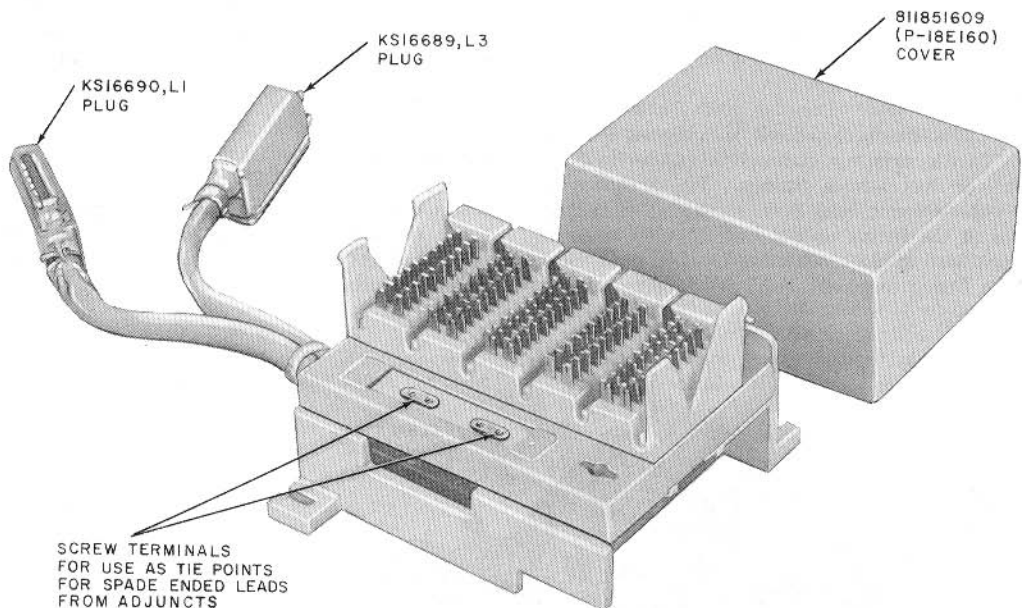

Fig. 3—66E8-25 Connecting Block
- Add new Fig. 3, 6, and 7.
2.05 ♦The 66E8-25 connecting block (Fig. 3) is equipped with a molded plastic base and provides full access to the 50 conductors of the connector cable and mounting cord supplying a telephone set. The connecting block can also be used to gain access to the leads in one finger of larger connector cables and mounting cords such as those for CALL DIRECTORS®. Primary use of the 66E8-25 connecting block is with the 2A transmitter-receiver used to supply HFAI in the 1A1 or 1A2 Key Telephone System.♦